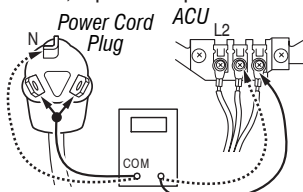

Figure 3b - Plug-to-terminal connections for electric dryer.
7. Check for continuity between the neutral (N) terminal of the plug and J8-3 (white wire) on the ACU.
8. With an Ohmmeter, check which terminal of the plug is connected to the right-most contact on the terminal block and make a note of it. This will be L2 (Red wire) in the wiring diagram. See figure 3b.